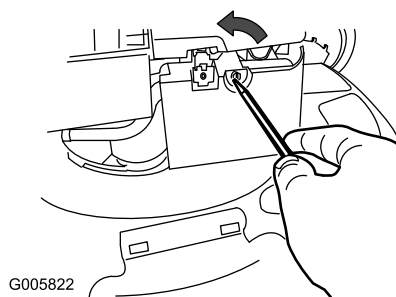

Figure 40
1. Use a screw driver to open the air-filter cover (Figure 40).